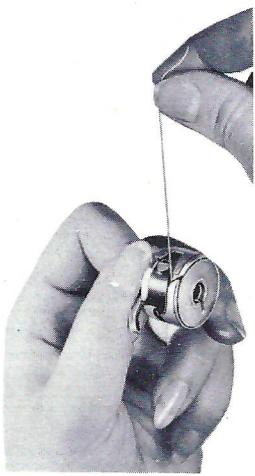
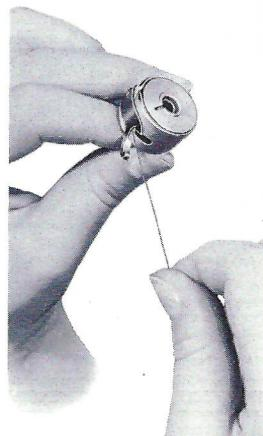

Fig. 15
Fig. 16
- c.* Insert bobbin into bobbin case, preventing bobbin from turning by holding latch with thumb of left hand, and with right hand pull thread into slot of bobbin case, as shown in Fig. 15; then draw it under the tension spring and up to the end of the tension spring (Fig. 16), leaving about four inches of loose thread.